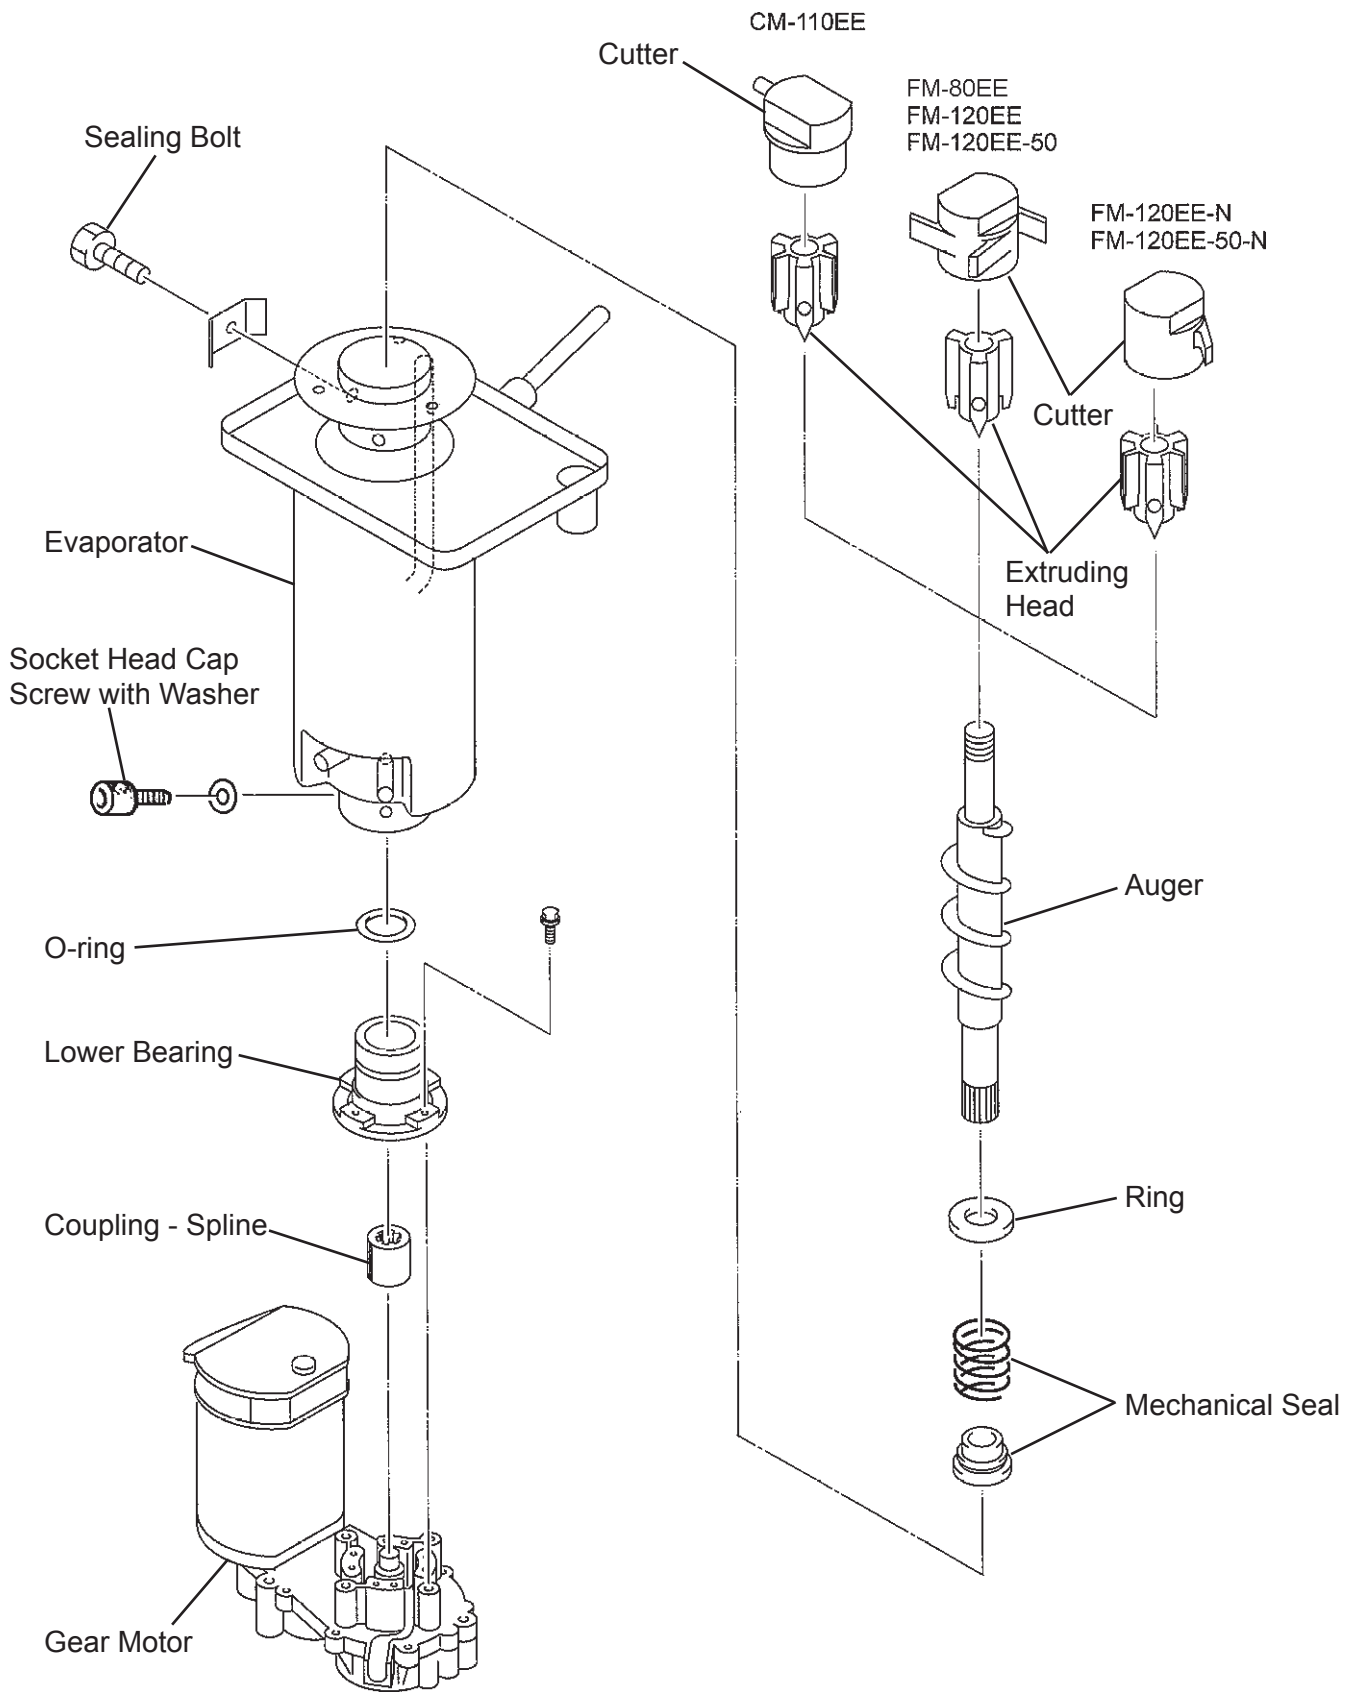

Fig. 16
6. EVAPORATOR ASSEMBLY - See Fig. 16